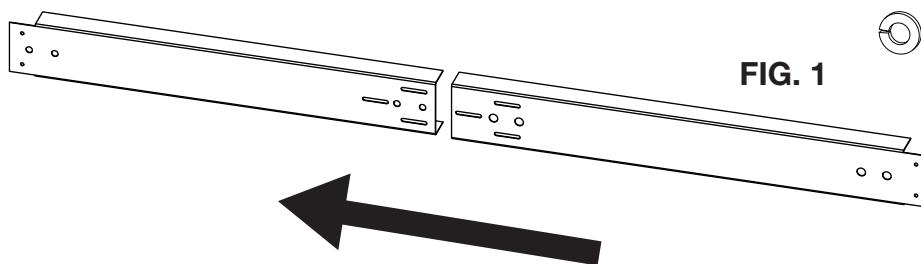

FIG. 1
- Slide the 2 steel header pieces together, ensuring to align the 3 slots (FIG. 1).